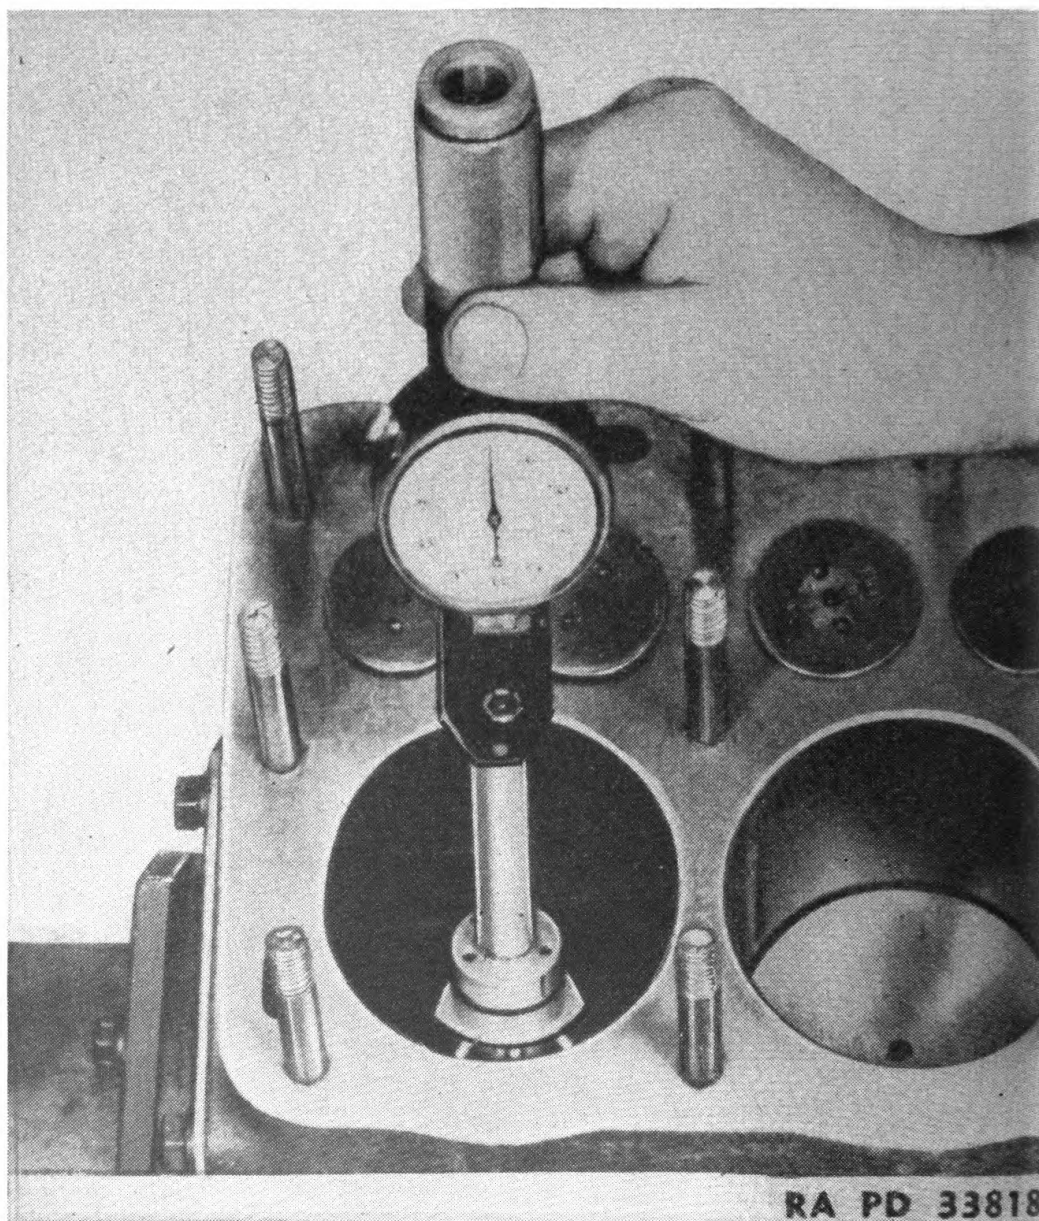

FIGURE 102.—Gaging the cylinder bore.
b. While the piston is removed, it is good practice to gage the cylinder bore (fig. 102) for possible out-of-round (eccentricity) and